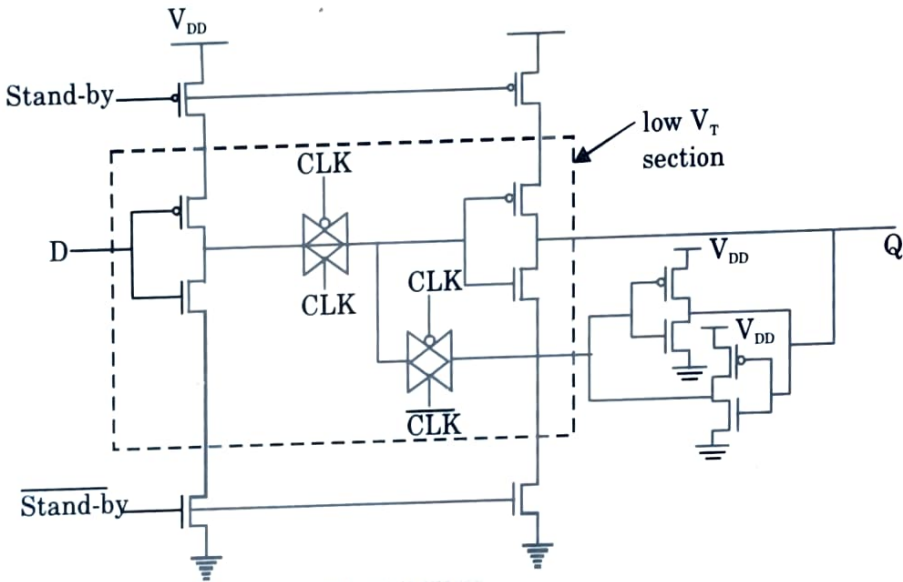

Fig. 4.16.2.
6. A D-latch circuit designed with the MTCMOS is shown in Fig. 4.16.2.